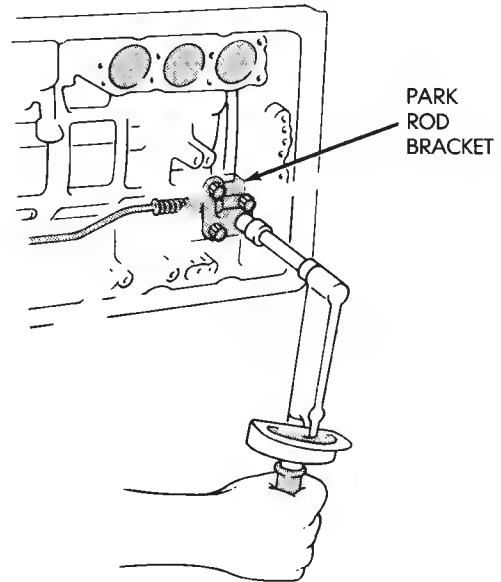

Fig. 33 Removing/Installing Park Rod Bracket
(1) Remove valve body as outlined in this section.
(2) Remove bolts attaching park rod bracket to case (Fig. 33).
- (8) Install park rod and bracket (Fig. 33). Tighten bracket bolts to 10 N·m (7 ft. lbs.) torque.
- (9) Install valve body, oil screen and oil pan as outlined in this section.